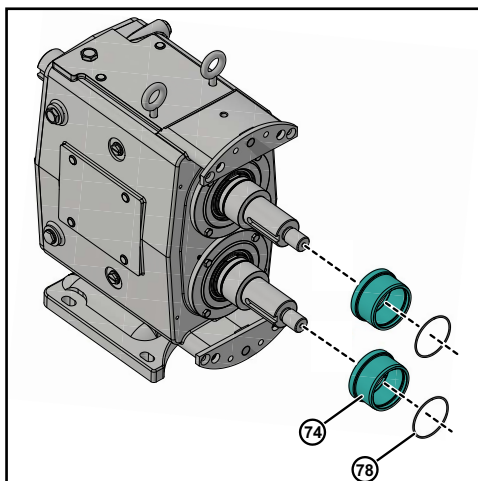

Figure 89 - Install Sleeves and O-rings
1. Lubricate the two sleeve O-rings (78) with a lubrication compound compatible with the O-ring material and process fluid(s). Install the sleeve O-rings (78) into the groove of the sleeve (74),
2. Install the two sleeves (74) on the shaft, as shown in Figure 89.